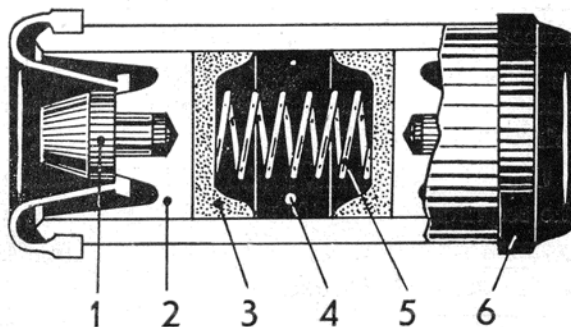

Fig. 24. Wheel unit cylinder.
Remove clamp, pull off the rubber cover (6, Fig. 24) and remove plunger (2), seal (3) and spring (5). Wash all parts in clean spirit.